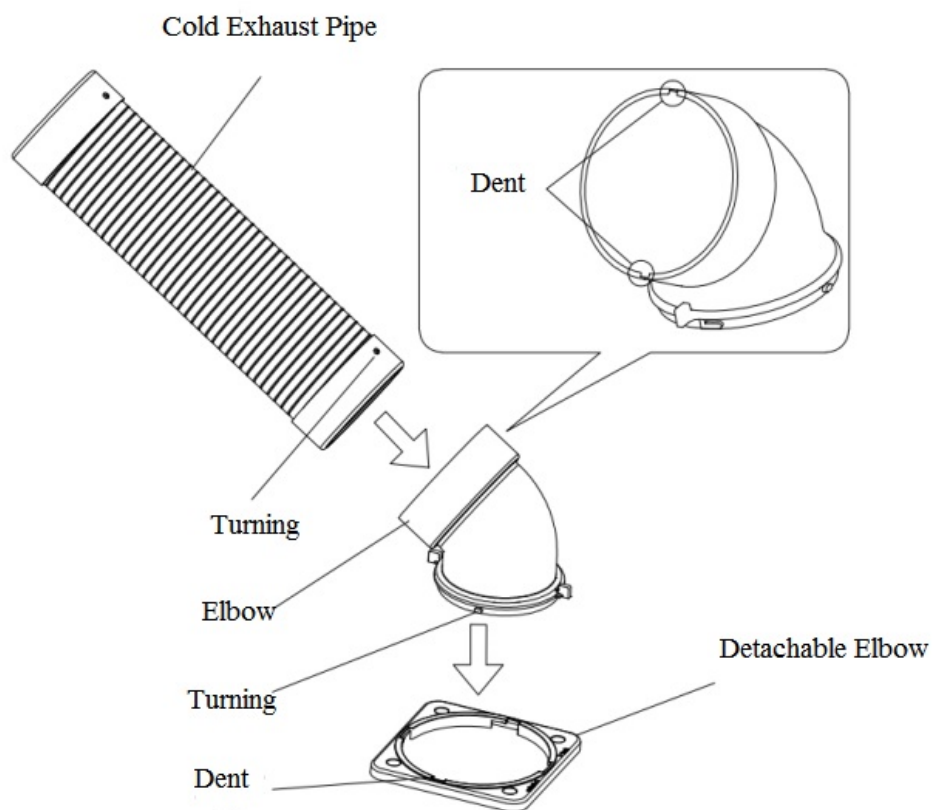

FIGURE 1
1. Point the base of the elbow to the dent of the detachable elbow base on the machine, insert it in and rotate it anticlockwise. Click the elbow in to place as shown in Fig. 1.
2. Point the turning end of the cold exhaust pipe to the dent of the cold exhaust pipe, insert it in and rotate it to the left to click it in to place as shown in Fig. 1.